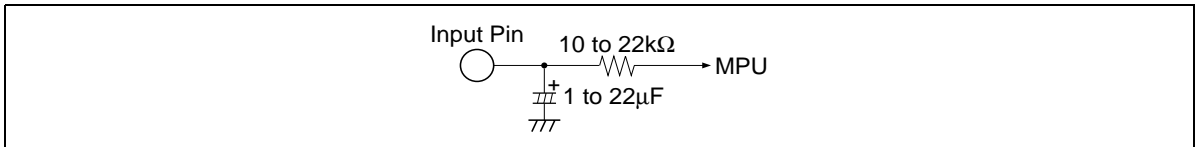

Figure 2 **Interface for Reduction of Pop Noise**
3. Reducing pop noise is so much better for 10 k Ω to 22 k Ω resistor and 1 μ F to 22 μ F capacitor shown figure 2.